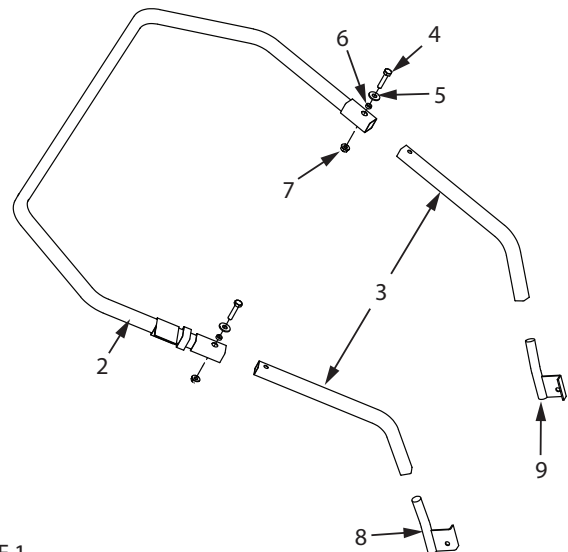
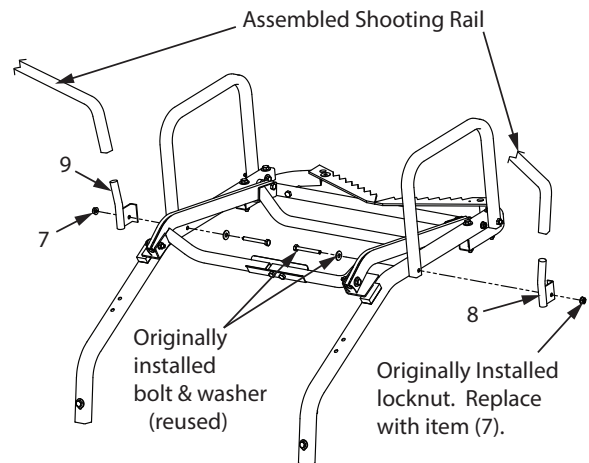

FIGURE 1
FIGURE 2
1. Attach both flared tube sections (3) to either end of the shooting rail (2), using provided bolts (4), washers (5), spacers (6), and locknuts (7). **SEE FIGURE 1.**
2. Install the foam sleeve (1)(not shown) onto the shooting rail (2) and secure velcro.
3. Remove and discard the two originally installed locknuts on the front bolts for the armrests. **SEE FIGURE 2.**
4. Attach the left (8), and right (9), rail posts respectively on the originally installed front bolts for the armrests. Use locknuts (7) to secure. **SEE FIGURE 2.**
5. Place assembled shooting rail onto rail posts (8 & 9) for final use. **SEE FIGURE 2.**